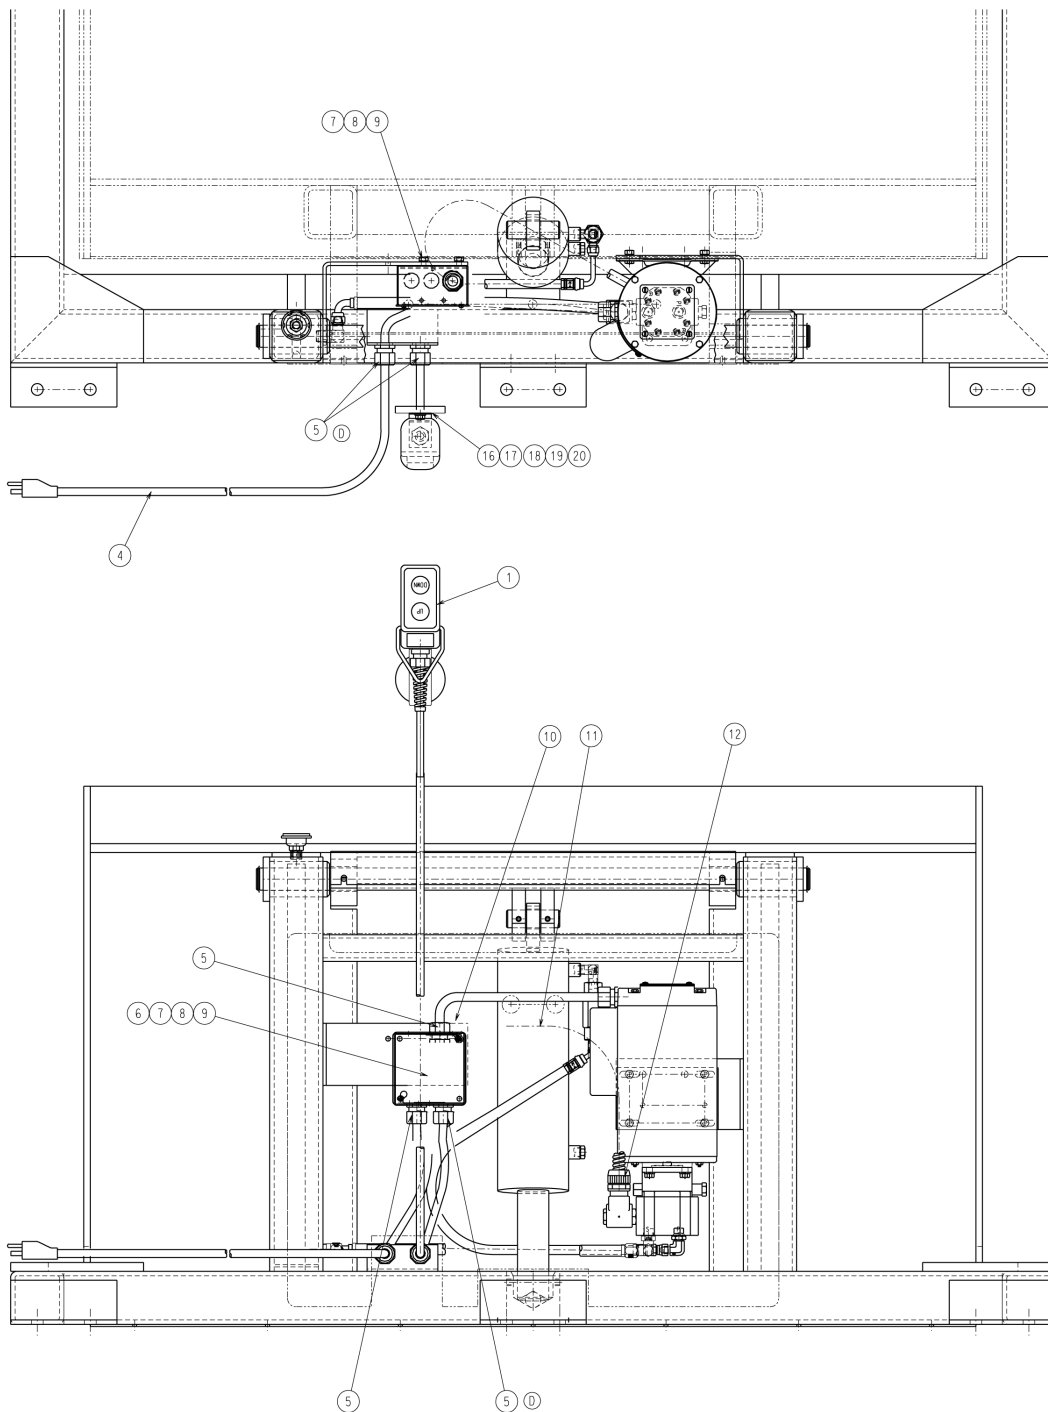

FIGURE 4: ZRT Hydraulic Schematic
2. Use hydraulic oil only for the tilter. The tilter has been supplied with Conoco Super Hydraulic 32. Use only the recommended oils listed in Table 1 or see hydraulic schematic located in the rear of this manual in Figure 4.